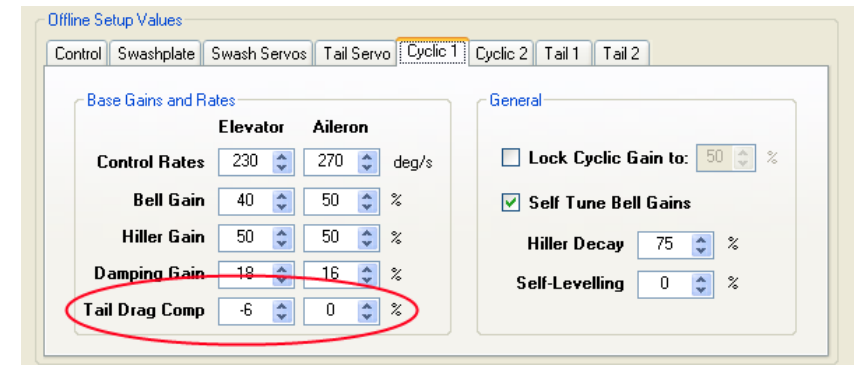

Figure 17.2 – Tail Drag Compensation setting
- 5) Adjust the *Tail Drag Compensation* on the *Cyclic* gain banks in the PC setup software. There are fields for setting drag compensation in the elevator and aileron axes (see Figure 17.2 below). On a day with light wind, start from a hover and then apply maximum positive collective. If the helicopter's nose goes up, lower the *Tail Drag Comp* number for *Elevator* by 1 or 2 steps. If the nose goes down, increase the *Elevator* value by 1 or 2 steps. If the helicopter banked the right or left, you may also have to adjust tail drag compensation for Aileron. If it banked right, decrease the value.
- 7) Turn on the *Self Tune Bell Gains* option on one or both *Cyclic* tuning banks (see Figure 17.2). For each of those banks, fly the helicopter as you normally would for at least four flights. Use the SK720 setup software to disable self-tuning once the gains stop changing very much.